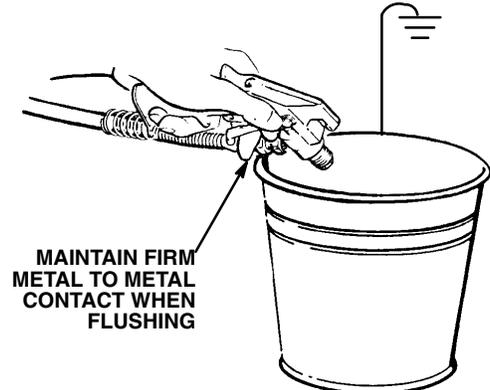

Fig 13–1
7. Hold a metal part of the gun firmly against and aimed into a metal waste container. *See Fig 13–1.* Squeeze the trigger and hold it open, turn the ON/OFF switch to ON, and slowly increase the pressure setting until the sprayer starts. Keep the gun triggered until all air is forced out of the system and the solvent flows freely from the gun. Release the trigger and engage the gun safety latch. This procedure helps reduce the risk of static sparking and splashing.